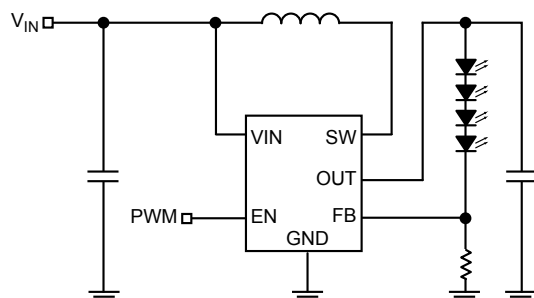

Figure 1. PWM Dimming Method
1. PWM dimming control is implemented by applying a PWM signal on EN pin as shown in Figure 1. The MIC2292/93 is turned on and off by the PWM signal. With this method, the LEDs operate with either zero or full current. The average LED current is increased proportionally to the duty-cycle of the PWM signal. This technique has high-efficiency because the IC and the LEDs consume no current during the off cycle of the PWM signal. Typical frequency should be between 100Hz and 10kHz.